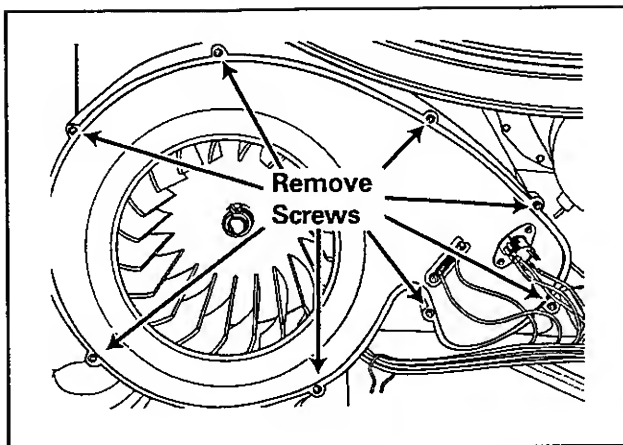

Figure 11-3
2. Remove eight screws holding cover to blower housing (*Figure 11-3*).